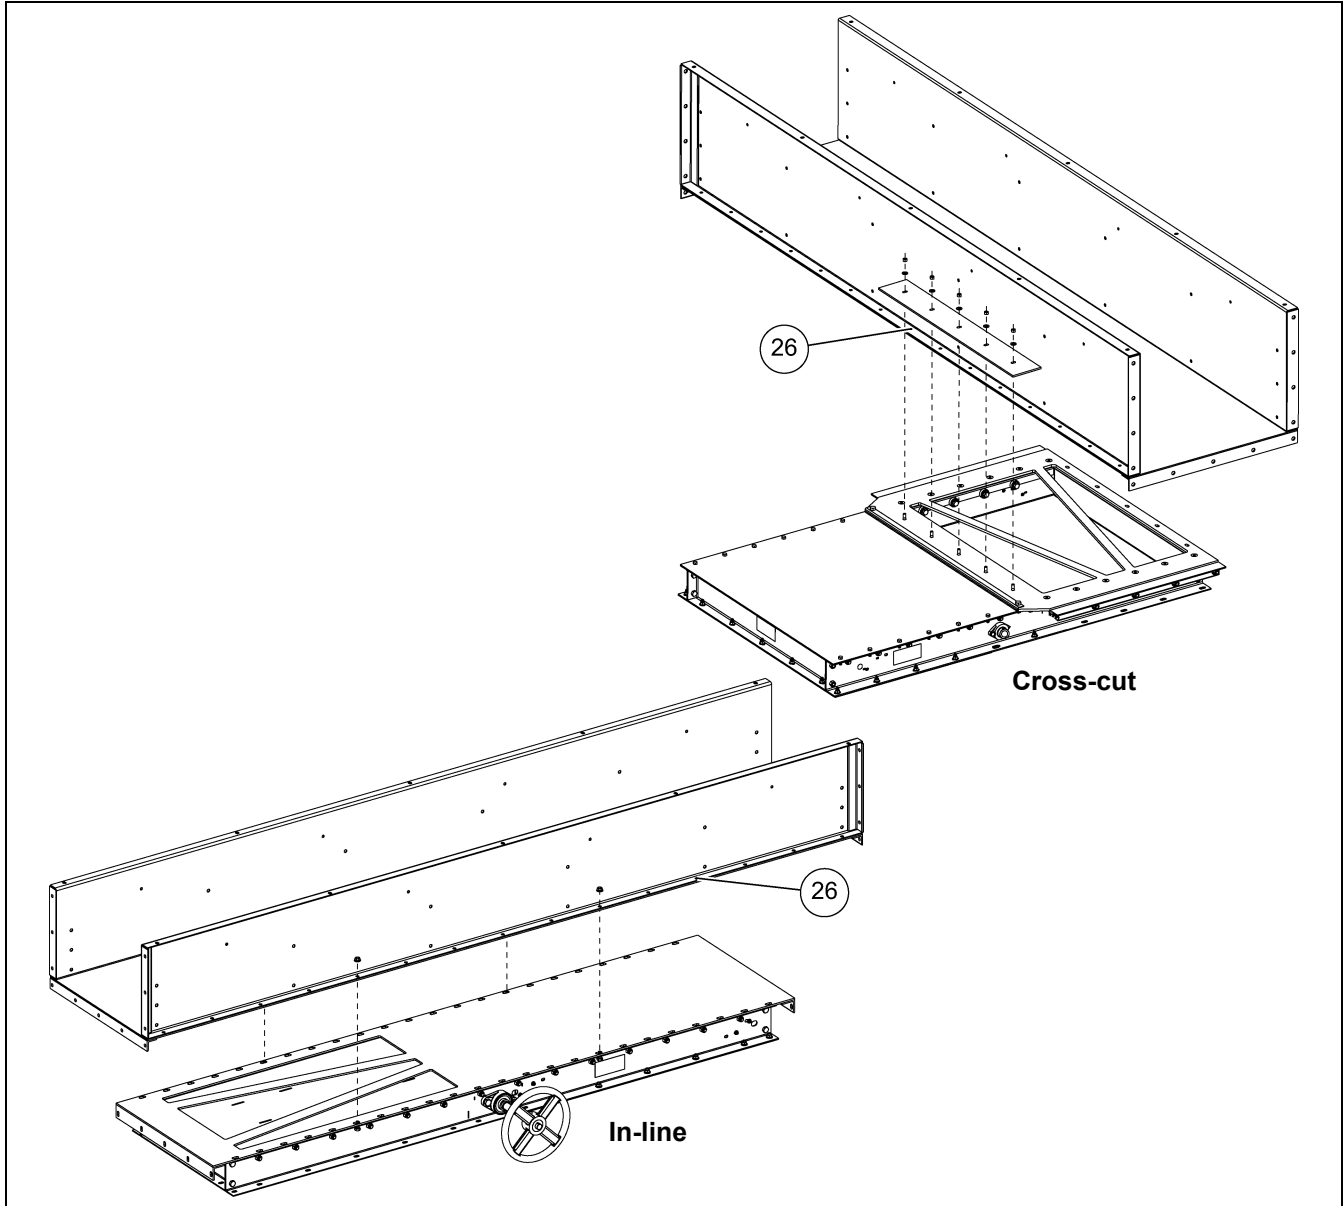

Figure 30
3. It may be necessary to drill the holes in the trough side flange. (See Figure 30.)